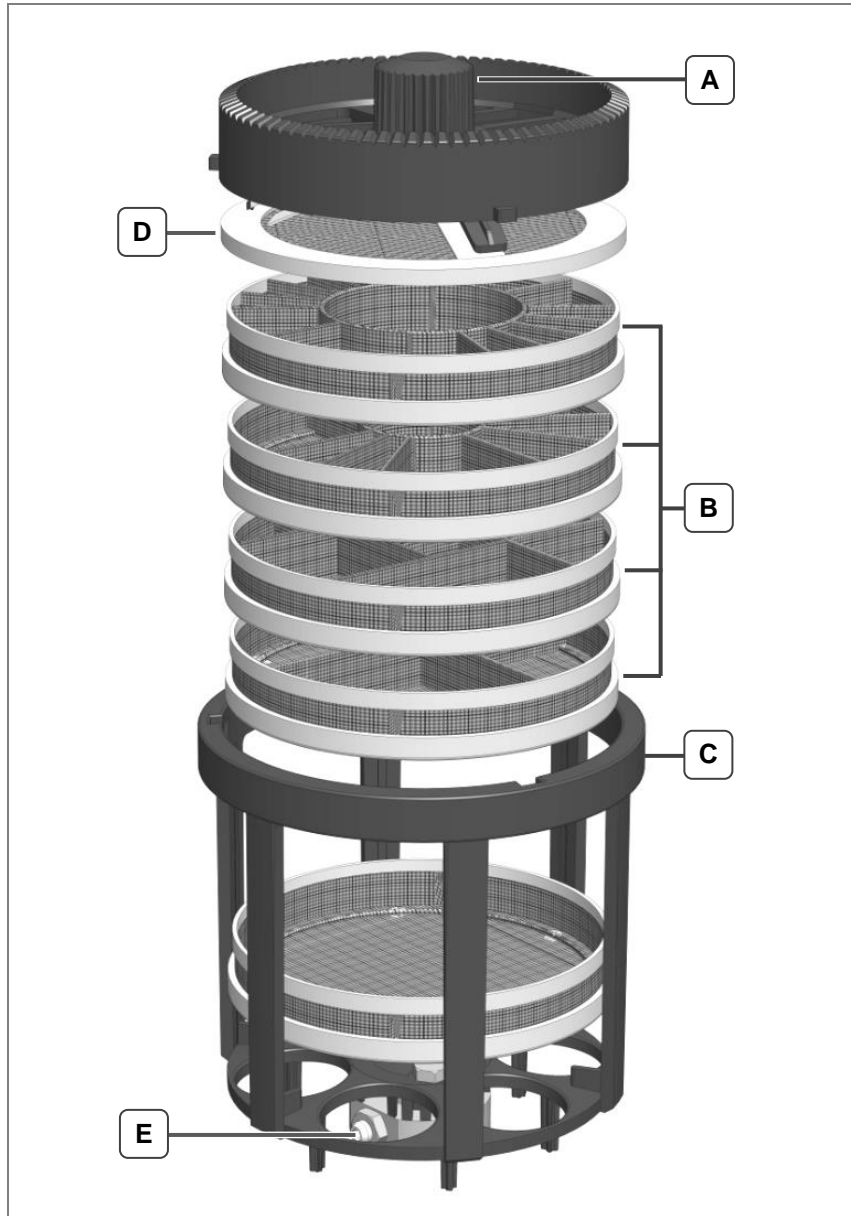

Fig. 6.2.2 Cleaning basket structure
The individual basket inserts (Fig. 6.2.2.B) can now be removed from the basket holder (Fig. 6.2.2.C).
Place the sieve lid (*Fig. 6.2.2.D*) in the top position.
**Attention!** Check that the basket locking (*Fig. 6.2.2.A*) is correctly locked before placing in the cleaning chamber.